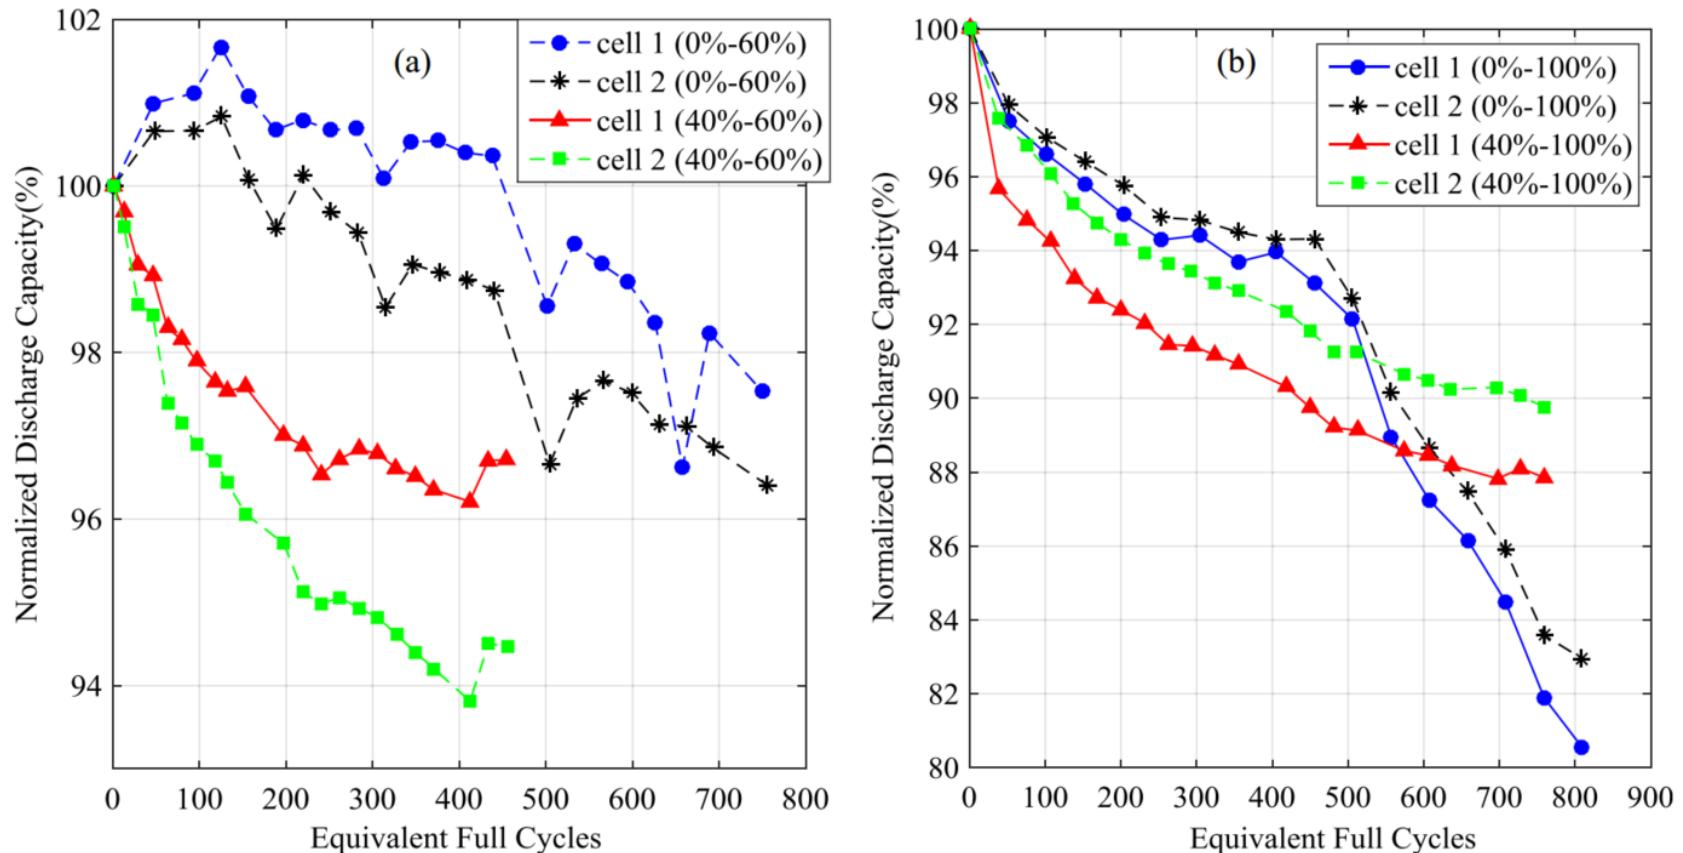

Figure17: Capacity fade results for (a) Lower SOC = 0%, 40%, Upper SOC = 60%, (b) Lower SOC = 0%, 40%, Upper SOC = 100%, all at C/2 rate.
- Figure 17 shows the effects of changing the lower SOC limits while keeping the upper SOC limits constant at 60% and 100% respectively.